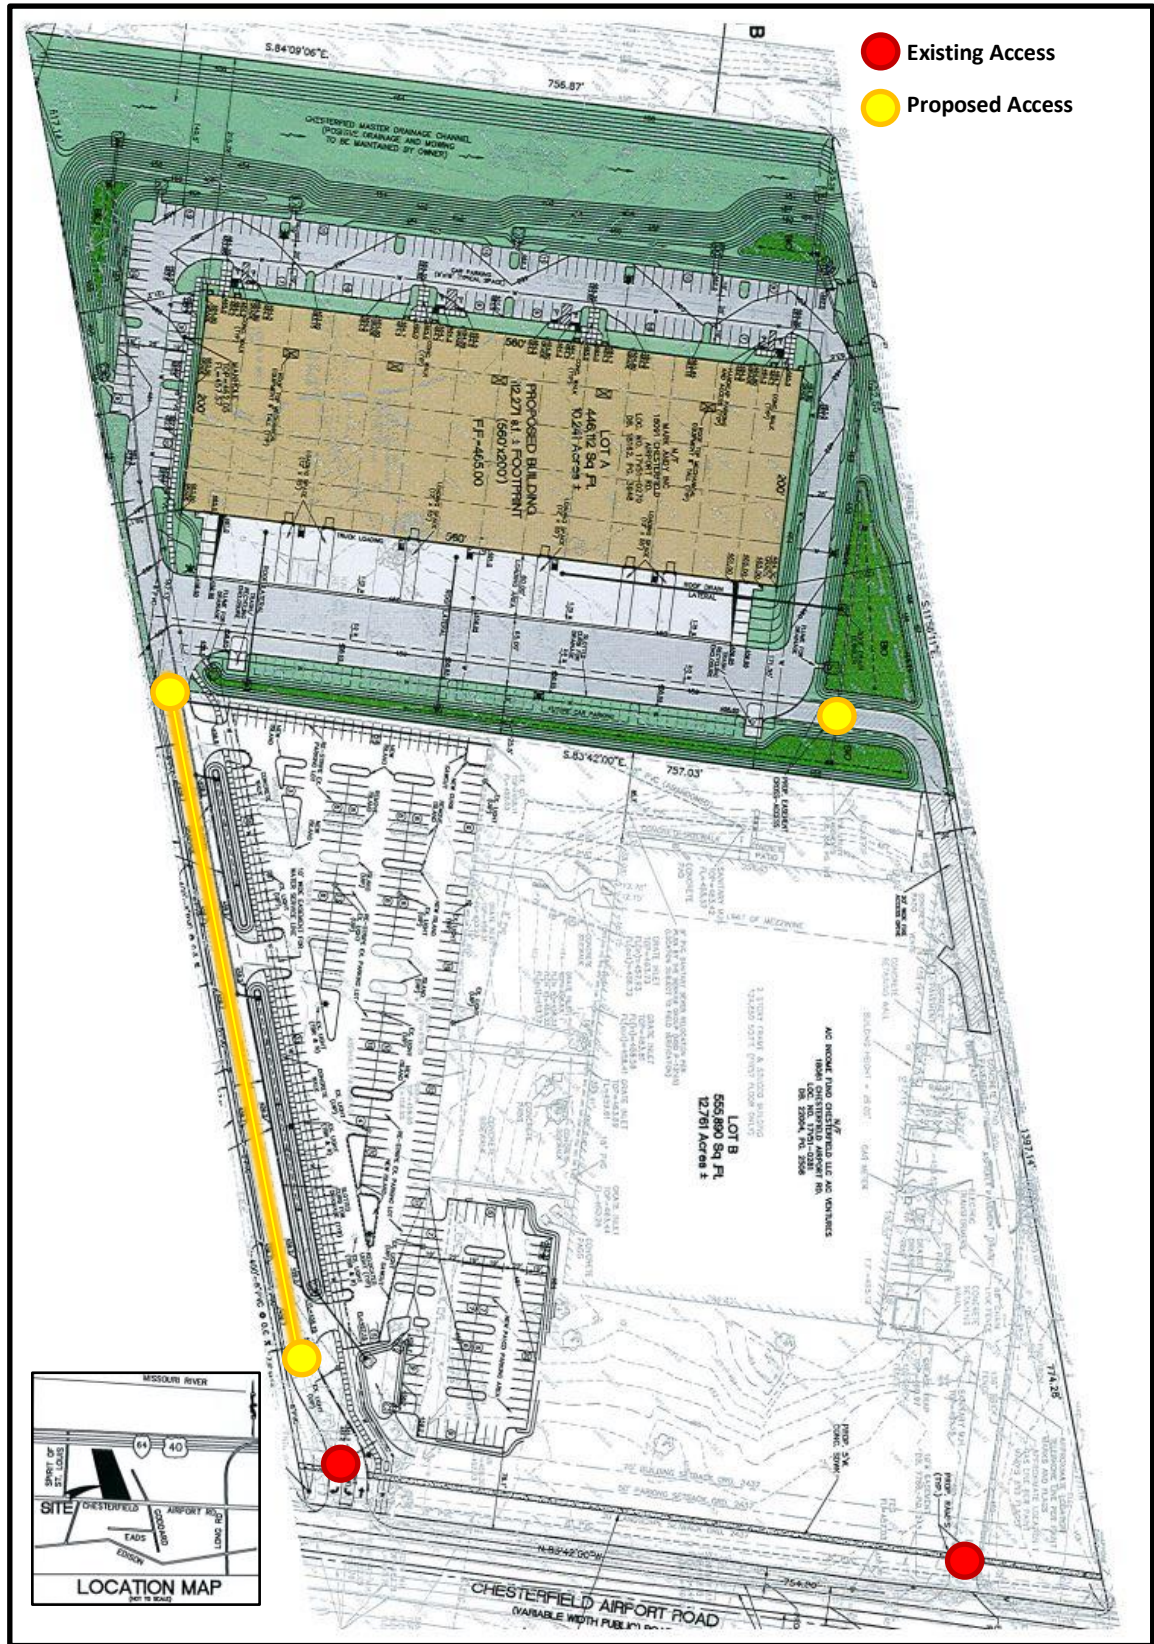

Figure 2: Color Site Development Section Plan Excerpt
Although Lot B currently has two (2) dedicated entrances, Lot A will be served by the entrance to Chesterfield Airport Rd. on the southwest corner of Lot B, as well as a secondary entrance to the east through Lot B. Per Ordinance 2437, this entrance is to be improved with the development of Lot A. Additionally, a cross-access easement is proposed to the southeast of Lot A for potential access to the cul-de-sac of N. Goddard Ave. This fulfils a requirement set in the governing ordinance regarding circulation and access and can be seen on Figure 2 below.